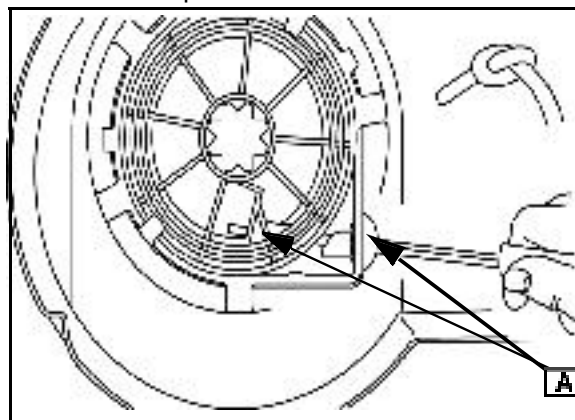

Fig. 31
7. Back off pulley until pulley hole is aligned ([A] Fig. 31) with eyelet in blower housing.